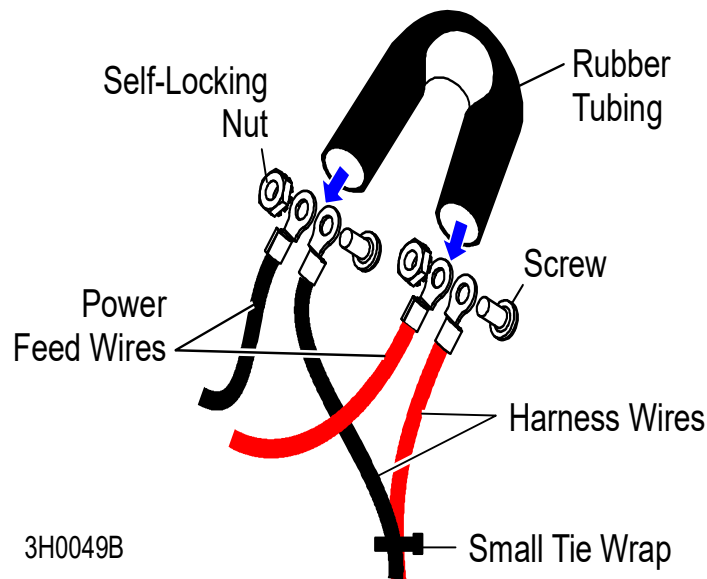

FIG. 1-9
See Figure 1-9. To connect, bundle the two harness wires together with the small tie wrap. Connect the blue power feed wire to the red harness wire with a screw and a self-locking nut. Connect the green power feed wire to the black harness wire with a screw and a self-locking nut. Slip one end of the neoprene tube around each wire/harness connection. Secure the tubing around the connections with the large tie wrap.
5. Install the long harness through the control box grommet. Use the small tie wrap to bundle the two harness wires together as shown. Connect the blue power feed wire to the red harness wire with a screw and a self-locking nut. Connect the green power feed wire to the black harness wire with a screw and a self-locking nut. Slip the supplied neoprene tube around both wire/harness connections as shown. **See Figure 1-9.** Keeping the tubing folded tight, use a large tie wrap to secure the bundled connection to the yellow, red and brown wire harness in the control box. Tuck the excess length of wires into the left front corner of the control box and replace the control box cover.